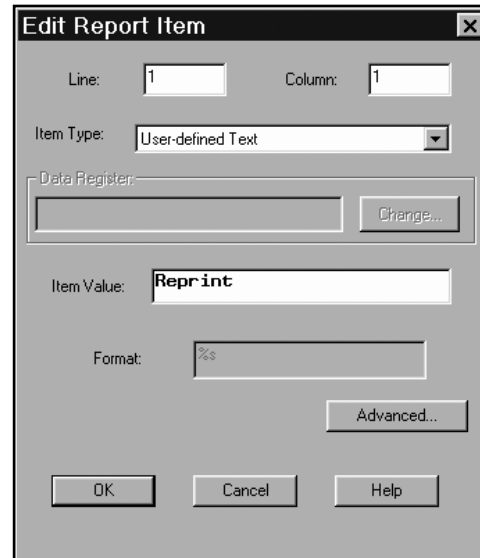
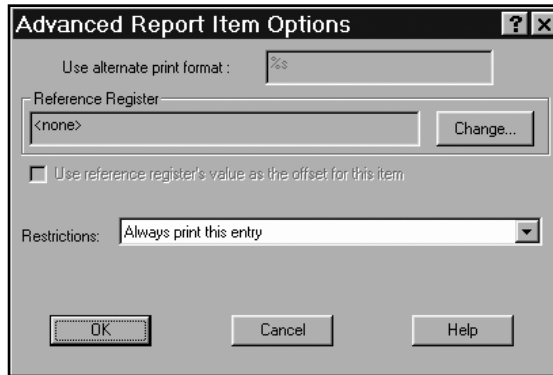

Figure 22
Figure 23
- In the boxes labeled "Line" and "Column," indicate the position of the new report item. In Figure 22, the text "Reprint" will appear in Line 1, Column 1 – the upper left-hand corner of the report. There are 60 lines and 80 columns on a single page of an AccuMate report.
- Next, select "Item Type" from the pull-down menu shown in Figure 22. There are three options: "Run/Program Data Value," "Run/Program Data Description," and "User-defined Text." More about these options appears later in this subsection.
To access the Report Editor's advanced features, choose *Edit\Insert New Item...* from the AccuMate tool bar. A dialog box, similar to that shown in *Figure 22*, will appear. Use the mouse to click on the "Advanced" button in the lower right-hand corner of the screen to obtain the dialog box shown in *Figure 23*.
The primary benefit to the "Use Alternate Print Format" feature is the option of editing field sizes. For example, the designation %8.3f indicates a total field size of eight characters, with three numbers to the right of the decimal point. The printed report format is XXXX.XXX. (See *Figure 23*.) To eliminate one decimal place in this example, use the mouse to highlight the "3", then type "2". The format string for this report item is now %8.2f and the printed report format is XXXX.XX.